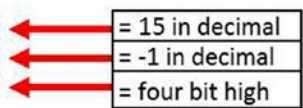

Figure 10-8. Signed and unsigned signal examples
Figure 10-8 shows the difference between signed and unsigned signals. In the example, all three of the example signals are four-bit registers and are assigned the same bit value to all high (1). The example_unsigned “1111” is defined as 15. The example_signed “1111” is -1. There is an online calculator to help you convert decimal to 2's complement: www.exploringbinary.com/twos-complement-converter.